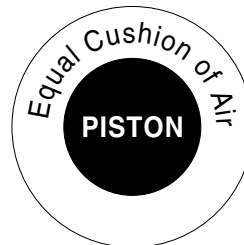

fig. 13
1. Use the slotted adjustment in the lower bracket to correctly align the air spring between the upper and lower brackets. This can be accomplished by tapping it inboard (towards the vehicle) or outboard (towards the wheel) for proper alignment. There should be a symmetrical cushion of air around the base of the air spring when correctly positioned. (fig. 13).